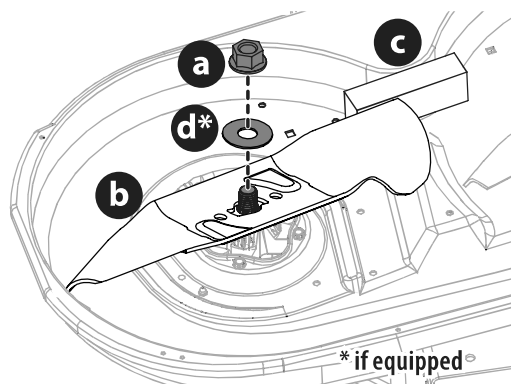

Figure 51
2. Place a block of wood (c) between the deck housing and the cutting edge of the blade (b) to help in breaking loose the hex nut (a) and washer (d)* securing the blade (b). Use a 15/16 inch wrench to loosen the hex nut (a) and washer (d)* (Figure 51).
3. When re-installing blades, be sure of the following (Figure 51):